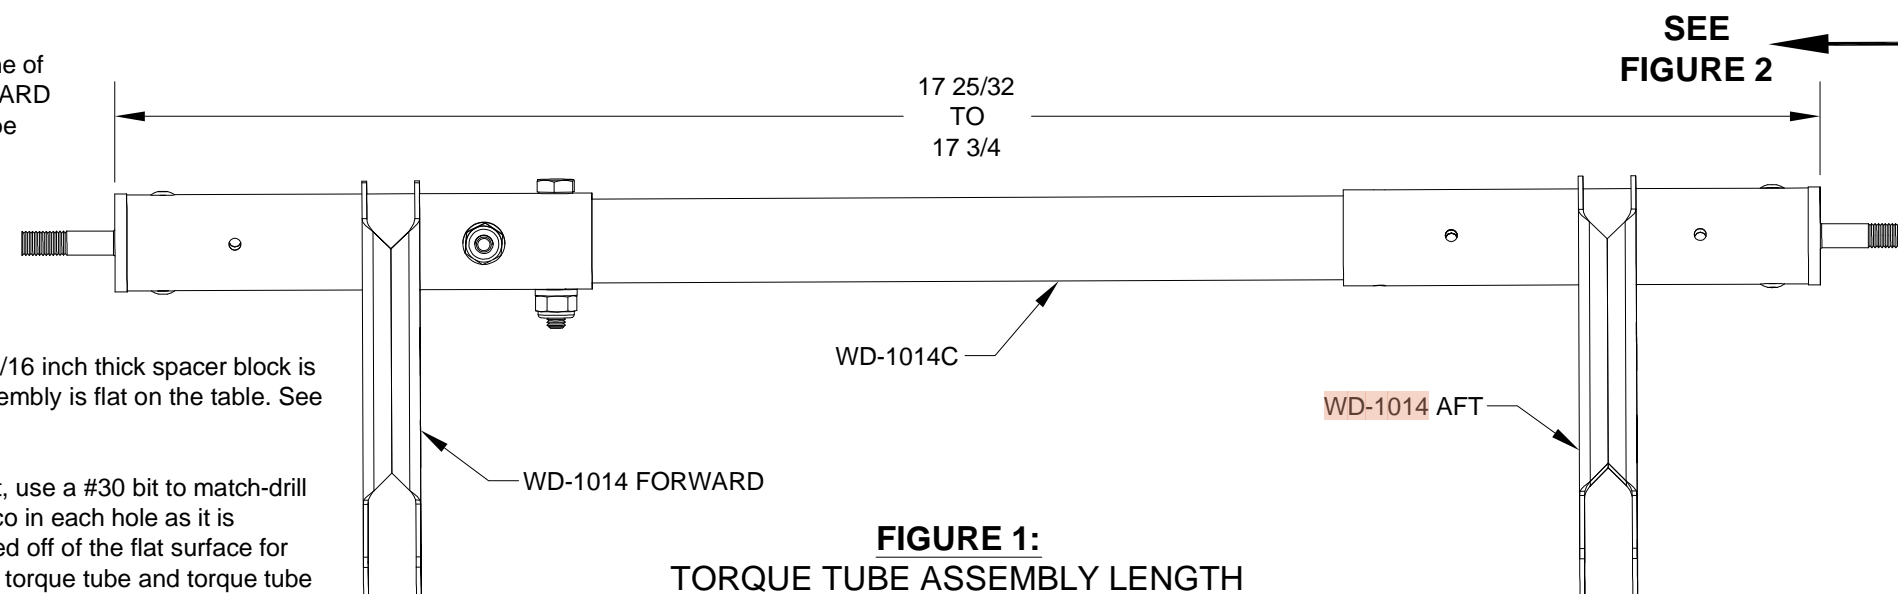

FIGURE 1:
Step 2: When assured that both the engagement and clocking of the torque tube assembly is correct, use a #30 bit to match-drill the torque tube collar using the holes in the aft torque tube subassembly as drill guides. Install a cleco in each hole as it is match-drilled. After the first hole is match-drilled and clecoed, the torque tube assembly can be moved off of the flat surface for drilling the remaining holes. See Figures 3 and 4. Using a #12 bit, final-drill through both sides of the torque tube and torque tube collar. Install a bolt, washer, and nut as shown in Page 23-7, Figure 1 to hold alignment while the other bolt hole is final drilled #12.
Step 3: Create the right side torque tube assembly by inserting the aft end of the remaining **WD-1014C** Torque Tube Collar into the open end of the remaining **WD-1014** AFT Aft Torque Tube Subassembly as shown in Figure 1.
Adjust the engagement of the torque tube collar and the aft torque tube subassembly such that the overall length is as shown in Figure 1.